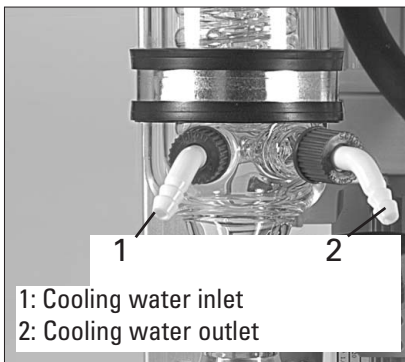

Fig. 9: Cooling water supply of condenser
- Cooling water supply of condenser see figure 9.
- See also figures 9 and 12.
- ⑥ Connect signal socket of the Vacuum Controller (on the rear) with the Electrical Supply Unit socket marked VC 1 using the connection cable.
- ⑦ Insert the Vacuum Controller power cord plug into the designated Electrical Supply Unit socket.
- ⑧ Insert the Pump Vent Valve plug